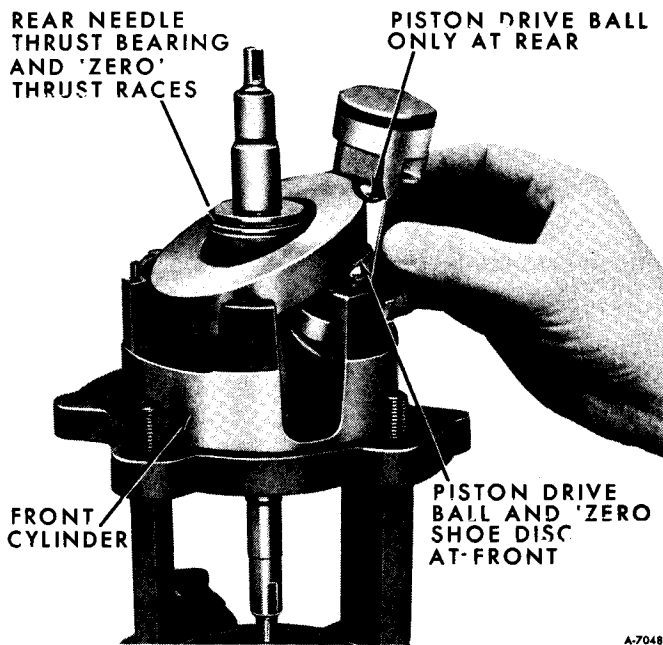

Figure 108—Installing Piston During Gauging Operation
10. Position piston over No. 1 cylinder bore (notched end of piston on bottom and piston straddling axial plate) and lower the shaft to allow piston to drop into its bore (figure 108).